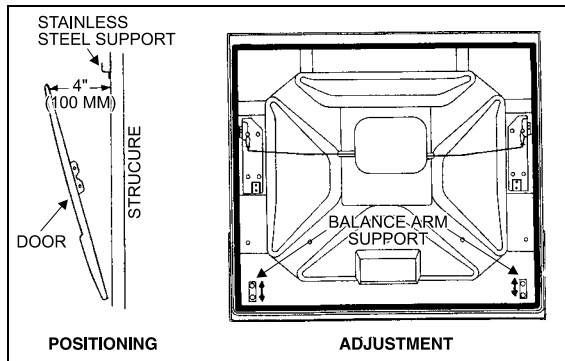

FIGURE 47: BAGGAGE COMPARTMENT DOOR 18065
2. Slightly open the door, position it to obtain a gap of 4" (100mm) between structure and door panel upper lip, maintain door in this position while an assistant completes tightening the two bolts retaining door to each balance arm support (Fig. 47).